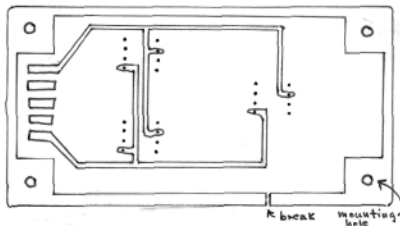

Fig. 1
Once the IC positions have been marked, you will know where the power supply lines must go. We suggest that these be penciled in using a straight edge. Later on, these straight lines will serve as references for other traces so that they can be made neater. With this done, the circuit board will look something like the one in Fig. 1. Actually, at this point it is just a copper clad board with pencil marks. You should note the following: (1) There is a ground path around the entire outside of the board, and at the corners this gets wider to provide mounting surfaces. (2) The dots represent the points where the IC pins will make contact with the copper surface. (3) At the left, a number of rectangular areas are provided to serve as in/out tabs. (4) The power supply lines have been penciled in for all the IC's.